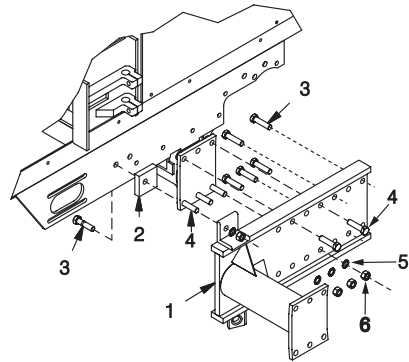

Figure 2-3-3 - Mounting Spacer & Tandem Plate
A. (See Figure 2-3-3) Place (3) Item 4 Bolts through the axle. Place (1) Item 3 Bolt through frame. Place (1) Item 1 Tandem Plate and (1) Item 2 Spacer as shown. Place remaining bolts, star washers, and nuts as shown, so the tandem plate and spacer are secure. Torque all nuts and bolts as per torque chart on page 2-3-1.